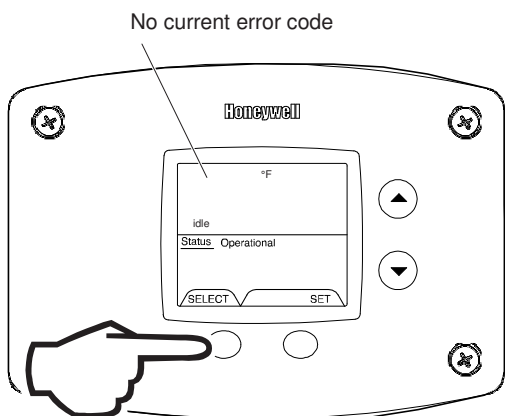

Fig. 63
1. In 'Service Mode' press the 'Select' button until the next display after the 'Software Version'. If there are no current error codes, the display will show -- (Fig. 63).